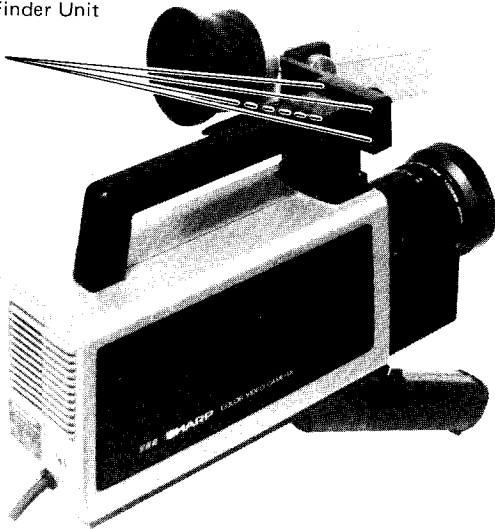

Figure 35.
2. Remove four screws (XBMSB30P06000) from the electronic view finder, detach the cabinet angle and take the internal microphone off the microphone holder (LHLDZ-8004TA00). Then disconnect the cable connector of the view finder. (See Fig. 35)